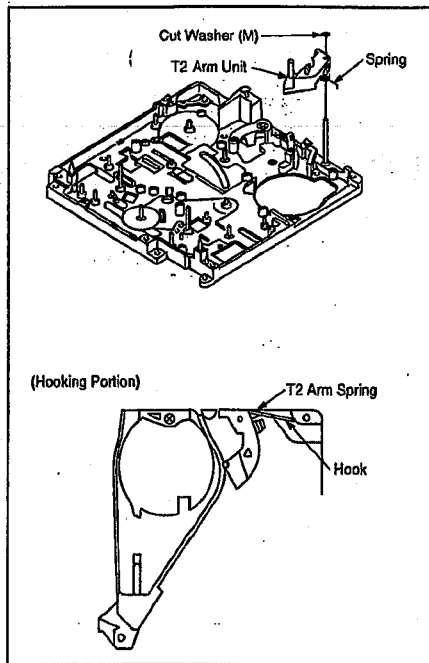

Fig. M21
11. T2 Arm Unit Fig. M21 Remove the Cut Washer (M) and T2 Arm Unit with Spring.